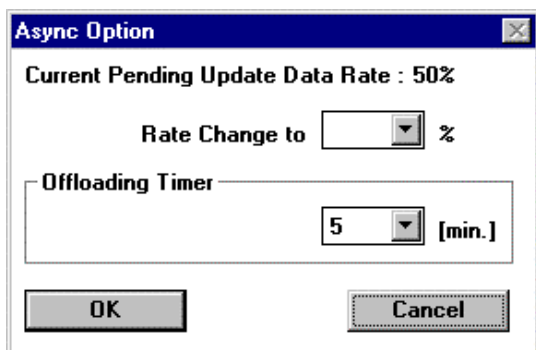
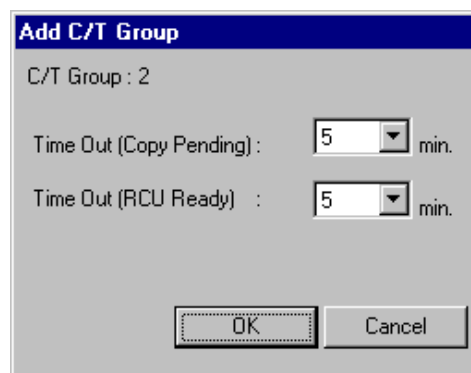

Figure 3.14 Setting the HORC Asynchronous Options
Figure 3.15 Adding the Consistency Groups
9. If you plan to create HORCA pairs with P-VOLs in this MCU, configure the MCU async options (Figure 3.14) (see section 4.4.1 for instructions), and then add the desired consistency group(s) to the MCU (see Figure 3.15) (see section 0 for instructions).
11. Repeat steps (4)–(10) for each subsystem which will function as a HORC MCU. After you have configured the MCUs, added the RCUs, and configured the HORC async options and consistency groups, you are ready to begin HORC volume pair operations.